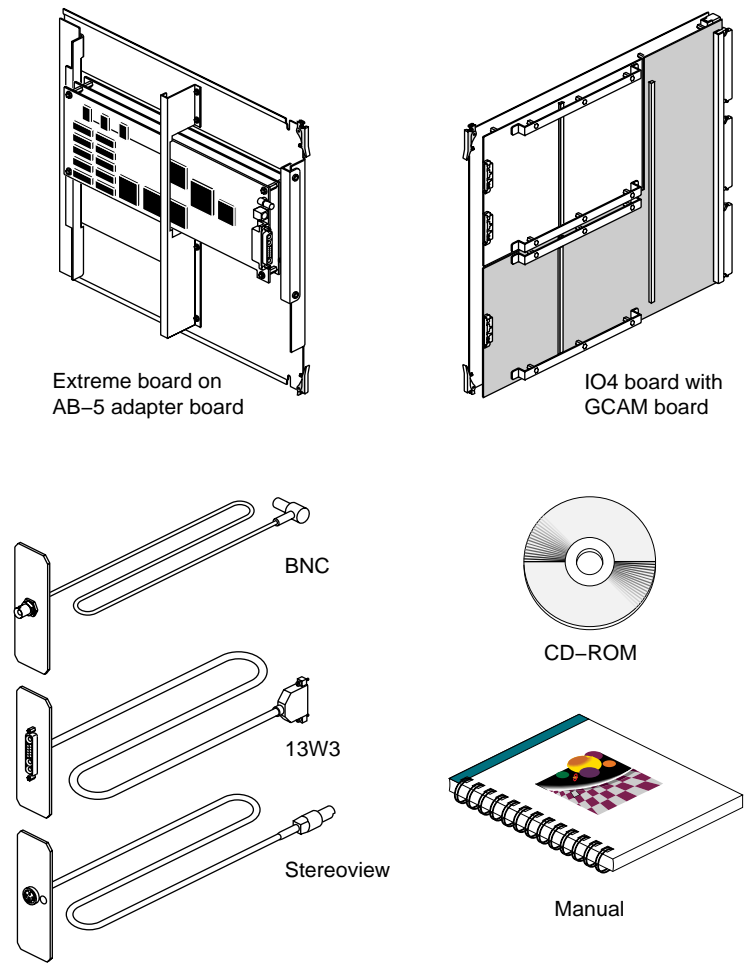

Figure 1-2 Parts for Challenge Extreme Graphics Option (Visualization Console)
- Figure 1-2** Parts for Challenge Extreme Graphics Option (Visualization Console)1-4
Before beginning the installation procedure, verify that all of the parts necessary for the installation are present. See Figure 1-2 and the applicable parts list in this section.